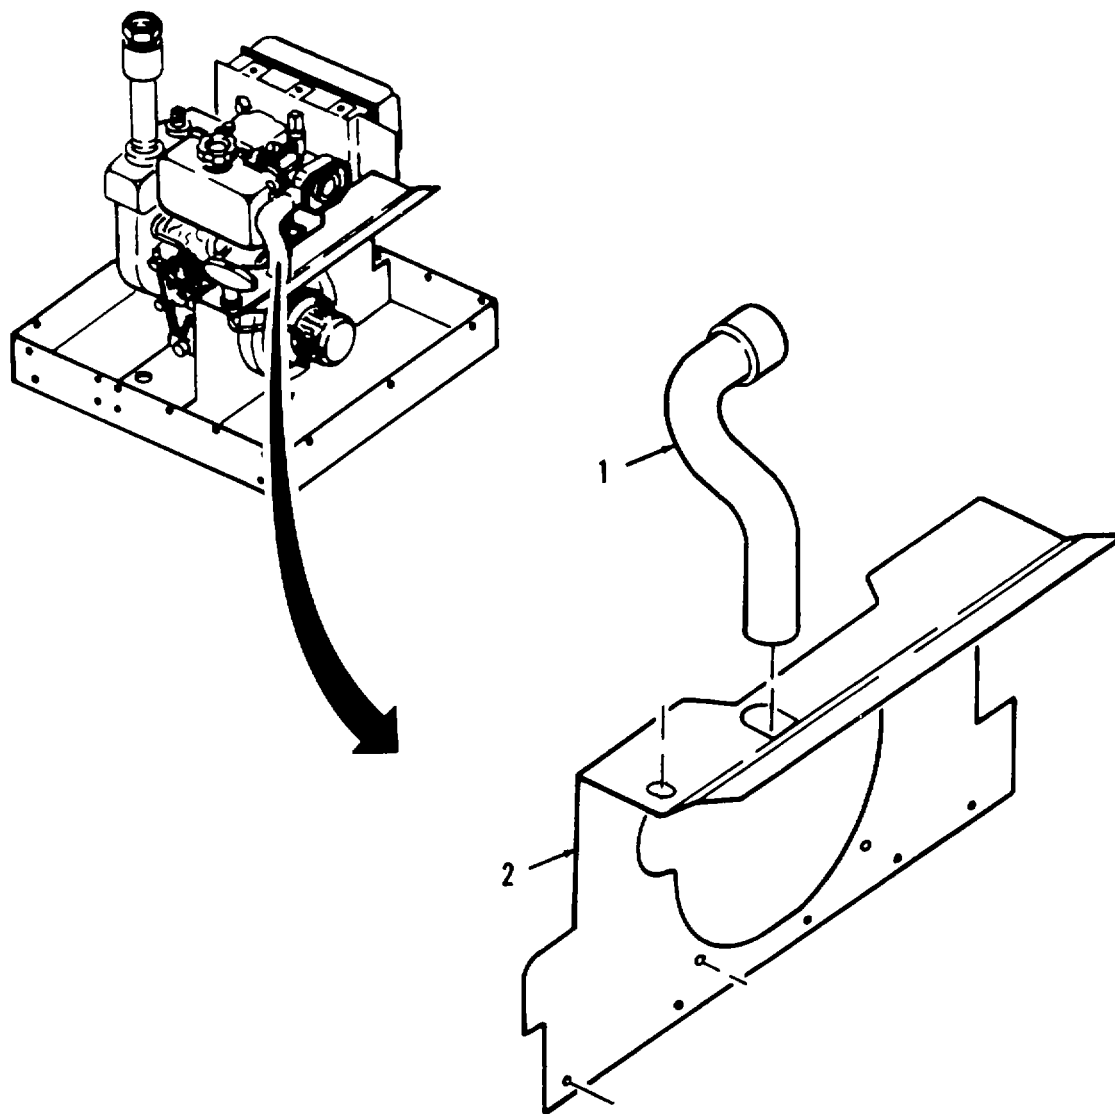

Figure 4-5. Air Intake Hose Replacement.
a. Removal. (Refer to Figure 4-5).
- (1) Remove air intake hose (1) from intake tube of engine air cleaner.
- (2) Remove air intake hose (1) from internal baffle (2).